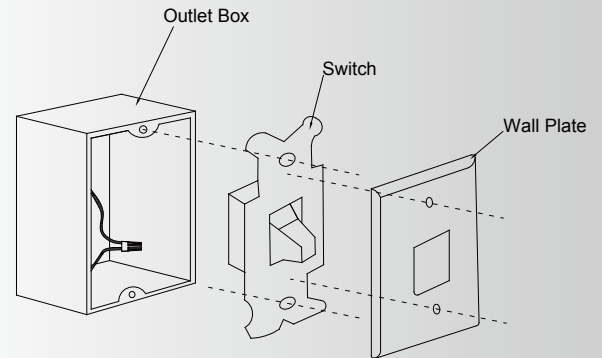

Fig. 25
Step 1: Remove the existing wall plate and the old switch from the wall outlet box. Wire nut the BLACK leads (hot) together and push back inside the outlet box. (Fig. 25)